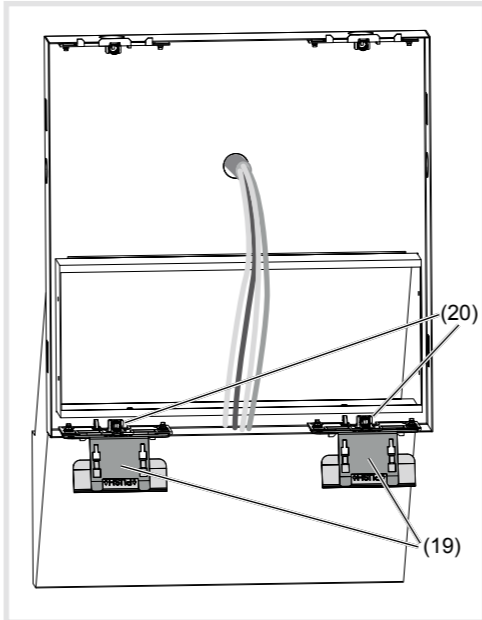

Figure 6: Inserted opening tools
- (18) Support bracket of the fastening elements
- Insert both opening tools (19) into the mounting device of the lower fastening elements (20) on the housing (Figure 6).